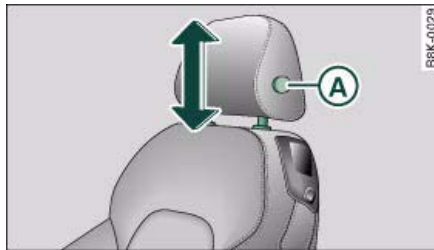

Fig. 78 Front seat: Adjusting head restraint
- Press button (A) ⇒ fig. 78 and push the head restraint downwards.
- You should adjust the head restraint so that the top of the head restraint is *at least* at eye level, or higher ⇒ fig. 78.